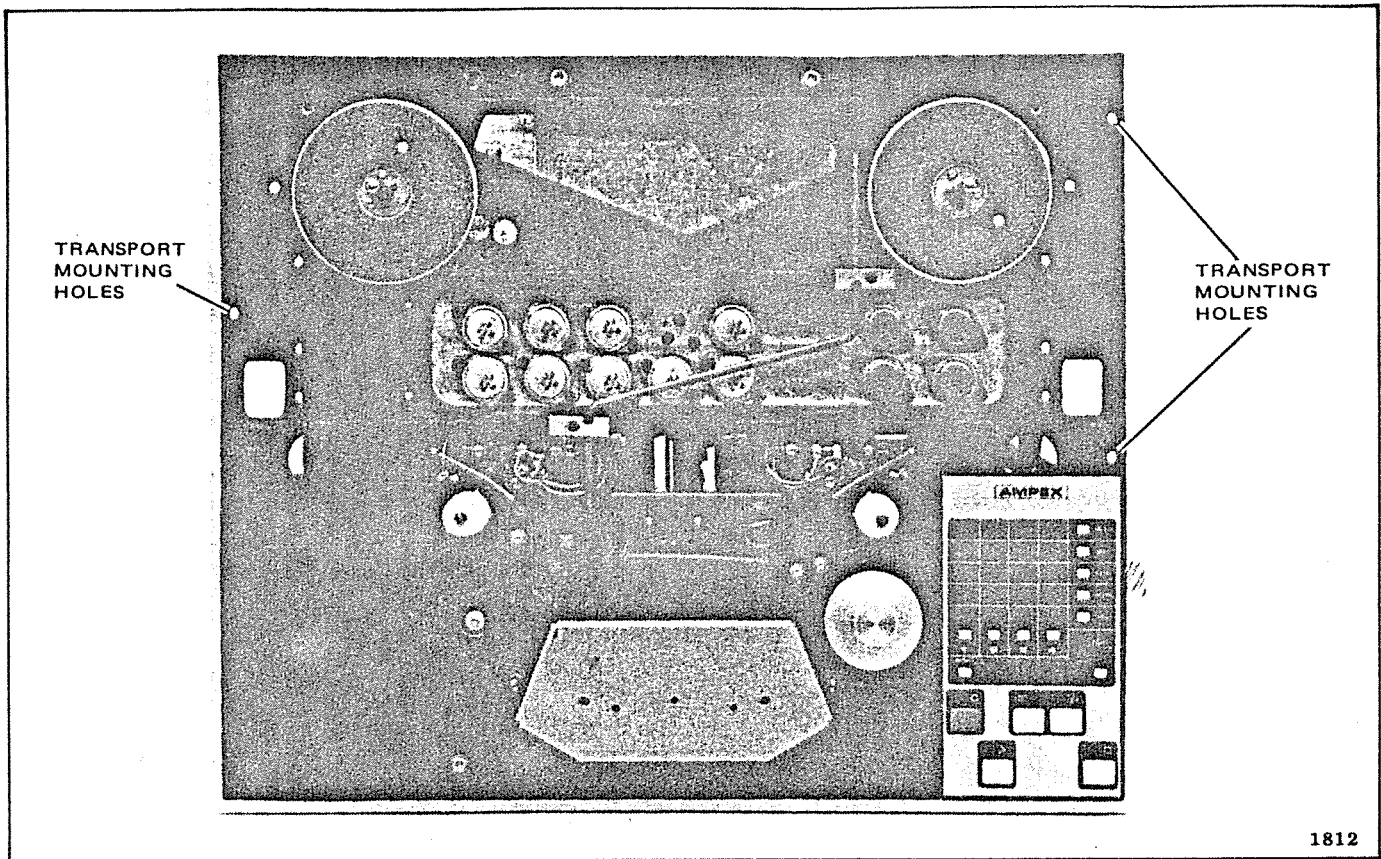

Figure 4. Transport Mounting Holes, Location
16. Remove three transport mounting screws from transport mounting holes (see Figure 4) and remove transport from case.